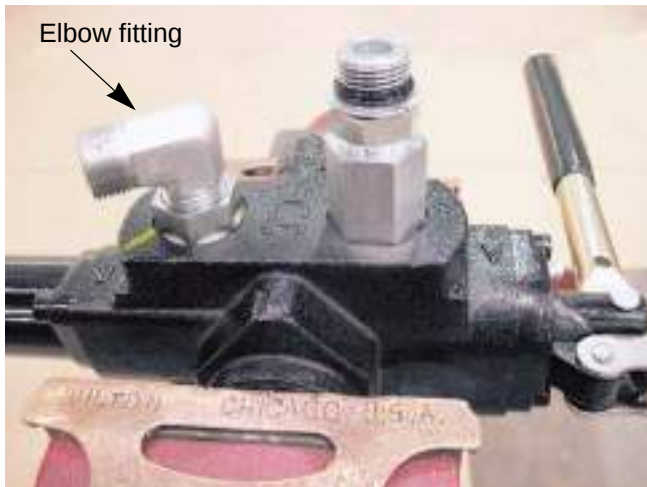

Figure 4.7
15. Place the control valve in a vise with the straight fitting facing up. See Figure 4.7.